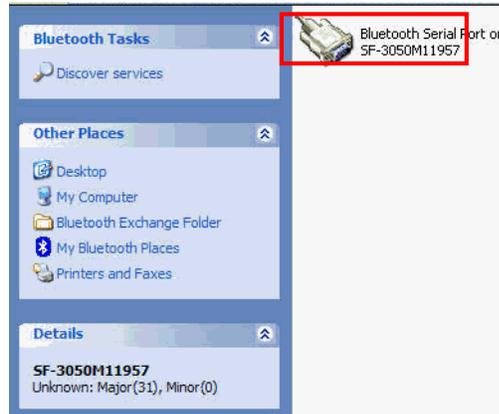

Figure 90: Bluetooth Serial Port Icon
6. Double-click the desired SF-3050 in the Bluetooth device list (see Figure 89). A Bluetooth serial port icon for the selected receiver is displayed (see Figure 90).